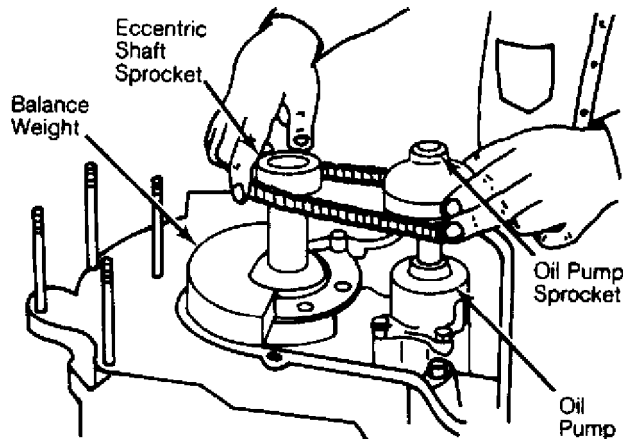

Fig. 2: Oil Pump Drive and Sprocket Removal
4) Remove eccentric shaft pulley. Take off front cover with gasket, and slide distributor gear off shaft. Remove "O" ring from oil passage. Remove oil pump sprocket nut. See Fig. 2. Slide oil pump sprocket, eccentric shaft sprocket and drive chain off together. Remove oil pump.